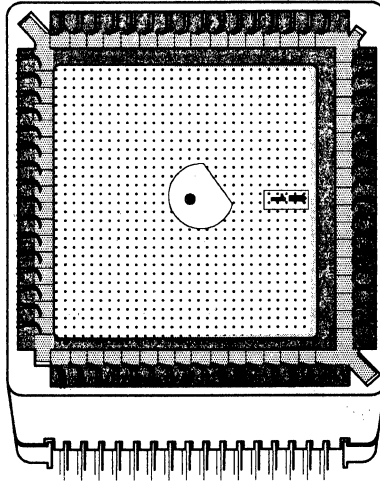

Figure 5-5. PLCC - PGA Socket Adapter
- 5) If your target system uses a device with pin-grid array (GB package), then you must first install the PLCC - PGA (pin-grid array) adapter (Figure 5-5) included in the XDS accessory package onto your target system.
Be sure to install the adapter with the correct orientation. As shown in Figure 5-5, the corner with the small notch (immediately to the left of the adapter pin 1 engraving) goes over the A1 corner of the GB socket. The PLCC target-system connector then plugs into the adapter as previously-described, with the white triangular shape on the connector in the A1 corner and the white bar over the pin 1 engraving in the adapter.